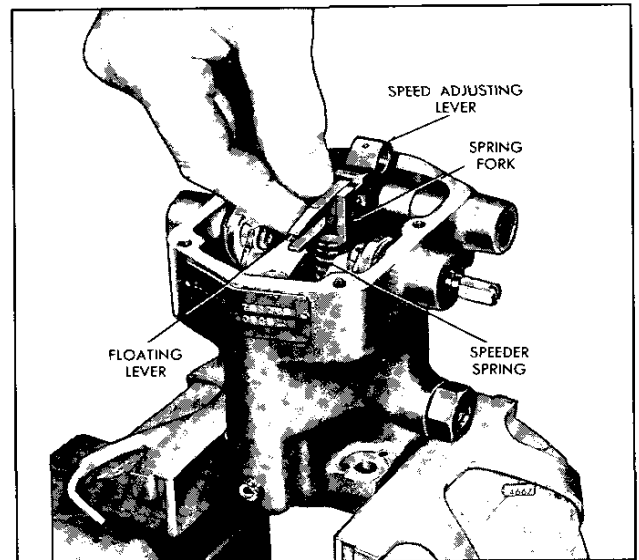

Fig. 8 - Removing Speed Adjusting Lever, Floating Lever, Spring Fork, Speeder Spring and Pilot Valve Plunger Assembly
11. Lift the speed adjusting lever, floating lever, spring fork, speeder spring and pilot valve plunger as an assembly from the governor housing as shown in Fig. 8.